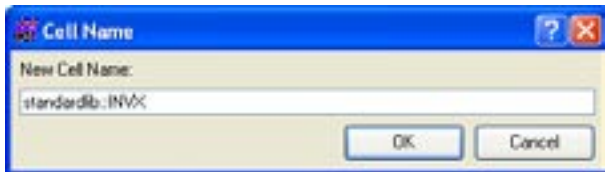

Figure 4. Mapping subcircuits/devices to the cells from the other library/project.
8. ‘Map’ command opens a dialog which allows setting correspondence between model name (or subcircuit name) in netlist with cell name in layout. Also, if the user would like to use standard cell(s) e.g. INVX from another library/project e.g. “standardlib” instead of current work library/project, please key in following syntax (Figure 4):